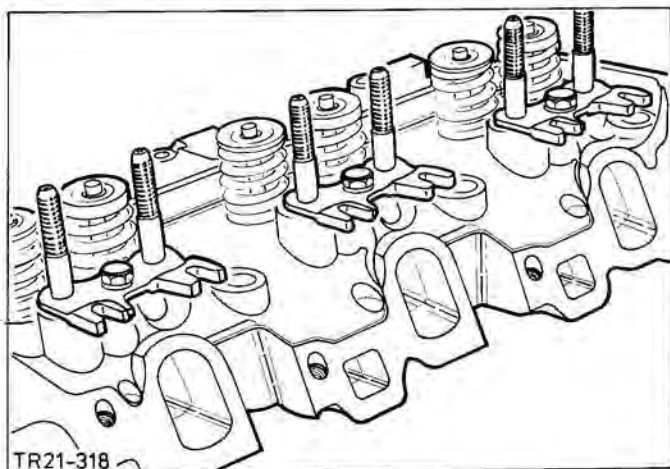

Fig.89. Push rod guide plates.
2. Unscrew push rod guides (3 bolts), Fig.89.